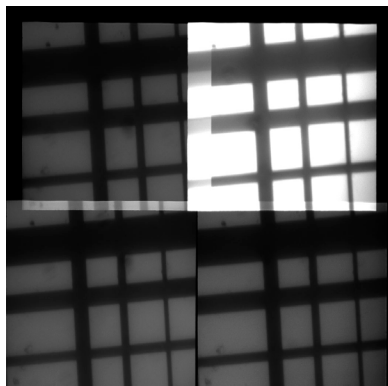

Figure 12. Correct positioning of lower right image.
5. Using the U/D and R/L knobs associated with the *lower right image*, move the image so that its bottom edge is aligned with the bottom edge of the CCD and its right edge is aligned with the right edge of the CCD (**Figure 12**).